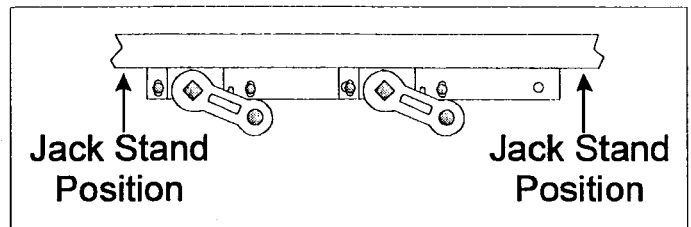

Fig. 1
4. Install a jack stand support of sufficient capacity under the frame and as close to the rear of the axle plate as possible. (Fig. 1)